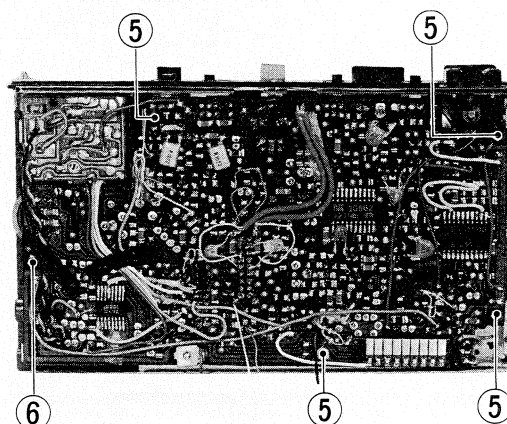

Fig. 25
C. Removal of main board ass'y (Fig. 25)
2. Remove 4 screws (5) SPSK1730N and screw (6) FO0410-25N, then set up the main board ass'y.